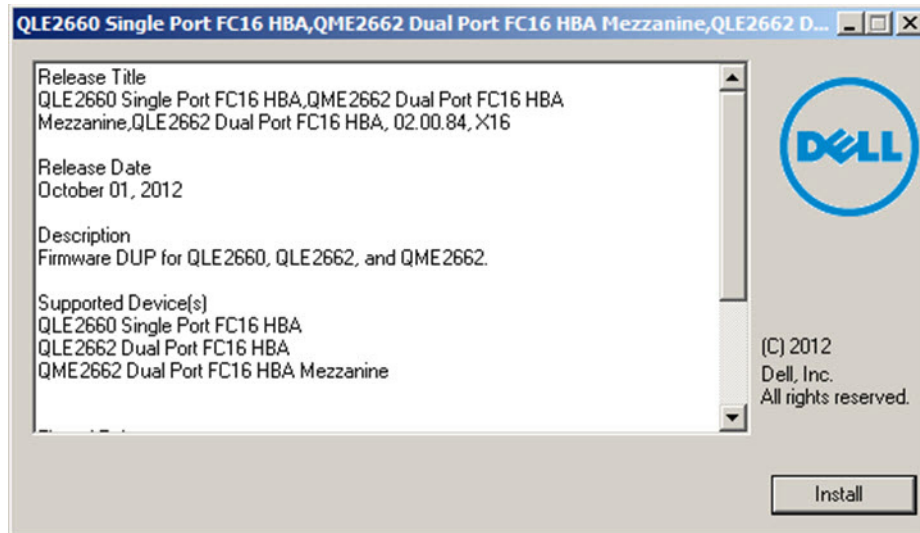

Figure 3-1. Dell Update Package Splash Screen
2. When the DUP splash screen appears (Figure 3-1), click **Install** to continue.